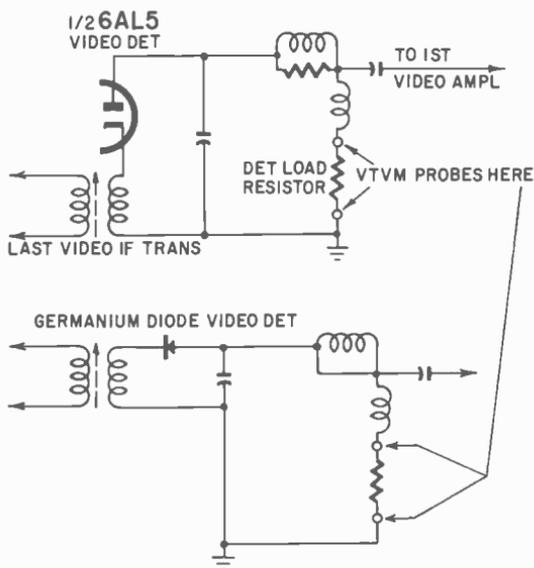
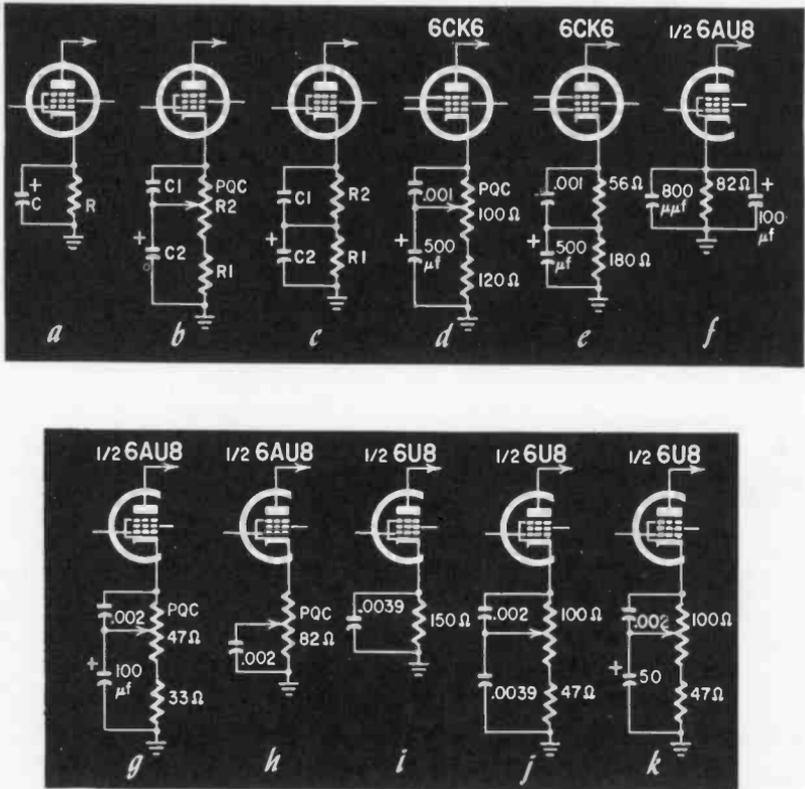

Fig. 401. Basic schematic of typical tube and crystal diode TV detector circuits, showing probe placement across the diode load.
Fig. 501. Techniques for using and controlling cathode (negative) feedback.
The first question is: When should video if oscillation be suspected? When the audio is normal and the video information is present but not entirely legible. The raster may be streaked with long white lines or have a spotted appearance unaffected by changes in the contrast control setting. The presence of oscillations can be quickly verified by connecting a vacuum-tube voltmeter across the detector load resistor as indicated in Fig. 401. The normal voltage readings at this point, with no input signal, will vary from 0.5 to 1, due to the space charge of the detector tube and the small amount of rectified voltage caused by normal disturbances such as noise. Oscillation increases the voltage to some high value. In extreme cases it may read as high as 35 volts.
A very simple and effective way to control the response curve of a video tube is to include selective negative feedback in its cathode circuit. Usually, this circuit consists of a resistor (R) of a few hundred ohms shunted by a large-value electrolytic capacitor (C) (see Fig. 501-a). When the PQC is included, the circuit looks like Fig. 501-b. The dc cathode bias is provided by resistor R1 and potentiometer R2 in series, the total value of $R1 + R2$ being equal to R in Fig. 501-a. The high-value electrolytic capacitor C2 is connected between slider and ground, and a small-value additional capacitor C1 is connected between slider and cathode. When the slider is at the cathode end of R2, the circuit is exactly equivalent to Fig. 401-a and the video response curve is undisturbed. When the slider is at the low end of R2, there is cathode negative feedback which reduces the tube's overall gain. However, R2 is shunted by C1, and the value of this capacitor is such that it practically short-circuits R2 for the highest frequencies of the video spectrum, thus suppressing feedback and insuring full gain of the tube at high frequencies.
If the PQC is not going to be manually controlled, replace R2 with a fixed resistor of the same value, as in Fig. 501-c. This circuit appears in a number of forms in many television receivers, where it is used as part of the video amplifier compensation system to obtain a flat response curve. The purpose of the PQC is different, as we have seen previously. Note that adjusting the PQC does not modify the overall gain for low and medium frequencies. A practical circuit, used in the French *Opera* receivers, is shown in Fig. 501-d. For the American standard, the value of the small capacitor should be increased to .002 μf .
In some models, the same manufacturer uses a fixed PQC as in Fig. 501-e. Here again, the value of the small capacitor should be .002 μf for the American standard. This circuit is easy to add to an existing receiver, keeping in mind that the total cathode resistance should be the same as the original value. As there is also a slight reduction in video gain the receiver must have some reserve in this respect. This, however, is never bothersome, for the PQC would hardly be installed in marginal cases.
The circuit of Fig. 501-b has been tried on a G-E 17T025 receiver. The original diagram is given in Fig. 501-f, and the
modified version in Fig. 501-g. The existing cathode resistor may have a low value, say less than 100 ohms. If this is so, the resistor can be entirely replaced by a potentiometer. This has been done in the G-E receiver, as in Fig. 501-h, with better results. A certain amount of parasitic wiring capacitance is unavoidable, but it does not hinder circuit action. Sometimes it can be made part of the correcting capacitor.
in the first video amplifier of a Philco 7L70 represented in Fig. 501-i. There are two possible solutions. Either the existing capacitor is used across the fixed resistor (Fig. 501-j) or it is replaced by an electrolytic capacitor (Fig. 501-k). The latter circuit gives a better range of control. Note that this PQC provides for an increase and decrease of high frequency gain.
German Loewe-Opta model. Neglecting L for the time being, the circuit is similar to Fig. 501-b, except that C1 has been replaced by R1, C1, C2 to obtain a more progressive effect. However, inductor L is also included in the cathode circuit. As its impedance increases with frequency, the cathode feedback increases and the gain decreases for the high frequencies of the video spectrum. Its effect is exactly opposite to that of a capacitor.